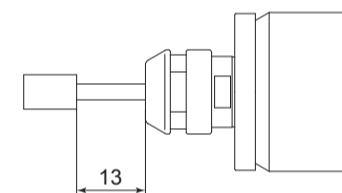

Fig. 10
- Do not exceed 13mm of overhang for mounted grindstones as shown in Fig. 10. If the overhang must exceed 13mm, reduce the motor speed in accordance with table 2.